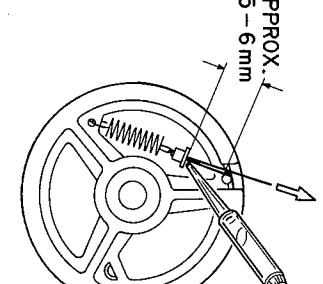

Fig. 5.7
(4) Referring to Fig. 5.7, hook a Pulley Spring in a Front-end Pulley 430 hole. Pull the dial thread so that a space of 5 – 6 mm can be obtained between the protrusion of Front-end Pulley 430 and the Thread Guide. After rounding off the thread guide with pliers, fix it by applying AVDEL BOND #C-2.